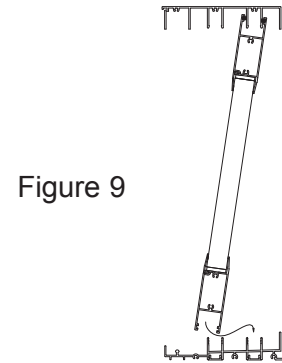

Figure 9
2. Position panel so that the top of panel slips over track frame header. Swing bottom of panel in until bottom of panel is aligned over sill and set panel on roller spline. (See Figure 9)